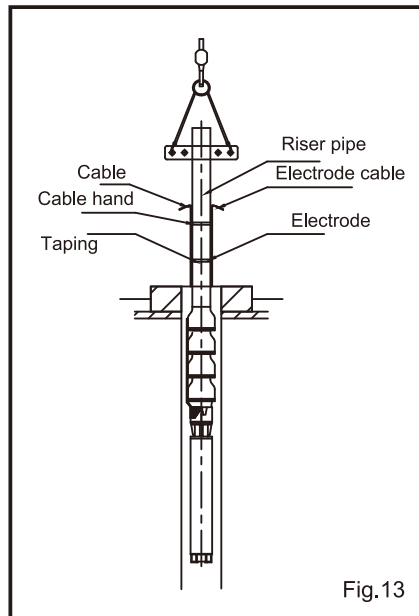

Fig.13
⑦ When completed the connection of the pump and Riser Pipe, pull them up slightly as they are (within 10cm up.). Then remove the Riser Pipe clamp fitted to the pump (lower end). The electrode is set up with a wide tape etc. more than minimum submerging depth. (Refer to 4.7 Discharge diameter, capacity and minimum submerging depth) Then fit the cable to the position over and below the joint of Riser Pipe by cable band. (If a Riser Pipe is 4m, 5.5m or 9m long, fit the cable also at the middle part of Riser Pipe.) (See fig. 13)